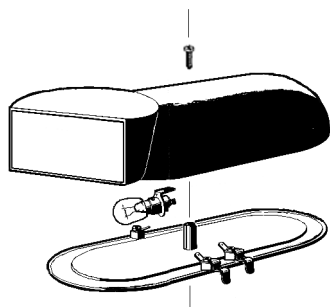

figure 18
- 3 - **Replacement of lighted top cover bulb:** remove the screw placed in the upper part of the top cover, remove the lower part and replace the bulb (using a 24-28V 21W max bulb). Reassemble the top cover and replace the screw.(see figure 18)